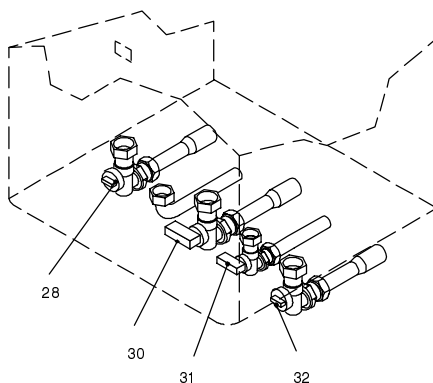

fig. 6.3
- 1 Turn off the dcw inlet cock (31 in fig. 6.3) and turn on the "utilities" cocks.
- 1 Turn off the c.h. cocks (28, 32 in fig. 6.3).